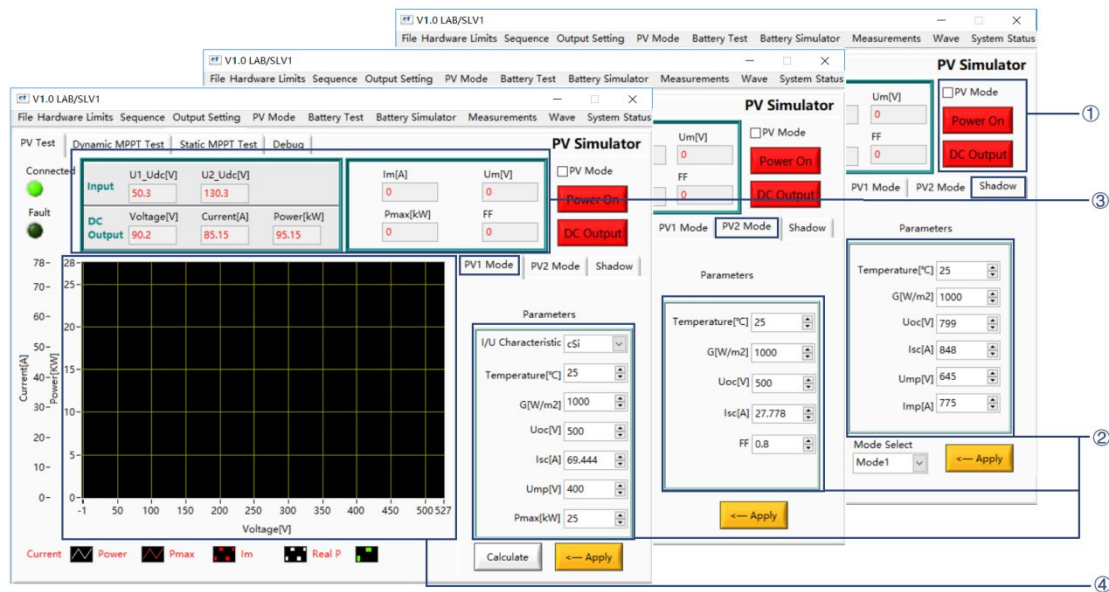

Figure 5-14 I-V curve setting
I-V curves can be created by entering simple parameters, and each curve contains 1024 data points. The performance of the grid-connected inverter under real conditions (cloud shading and panel temperature increase) can be tested by modifying the radiation level and temperature. There are three methods for setting the I-V curve, such as PV1, PV2, and shadow (such as Figure5-14).
Check the PV Mode (PV Mode) and click "Power On" → "DC Output" to turn on the power. Set I/U characteristics (crystalline silicon/thin film mode), temperature (Temperature), irradiance (G [W/m²]), open circuit voltage (Uoc), short circuit current (Isc), peak voltage (Ump), maximum power (Pmax) and other parameters (Figure 5-14②), click "Calculate" → "Apply" button, the software automatically calculates, Pm, Um, Im, FF parameter values are displayed in real time at the top of the panel (Figure 5-14③), and generate $I = f(U)$ and $P = f(U)$ curves in the waveform display area (Figure 5-14④).
Set the temperature (Temp of Module), irradiance (Irradiance), open circuit voltage (Uoc), short circuit current (Isc) and other parameters of the photovoltaic module (Figure 5-14②), after pressing the "Set" button, the software automatically Calculate Pm, Um, Im, fill factor (FF) and other parameter values are displayed on the top of the panel (Figure 5-14④), and generate $I = f(U)$ and $P = f(U)$ curves in the waveform display area.
In the shadow setting page, two modes can be selected. The user can set the temperature (Temp of Module), irradiance (Irradiance), open circuit voltage (Uoc), short circuit current (Isc), peak voltage (Ump), peak current (Imp) and other parameters of the photovoltaic module of the module (Figure 5-14③), after pressing the "Set" button, the software automatically calculates the Pm, Um, Im, FF parameter values and displays them at the top of the panel (Figure 5-14④), generate $I = f(U)$ and $P = f(U)$ curves in the waveform display area.